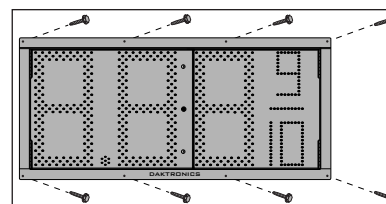
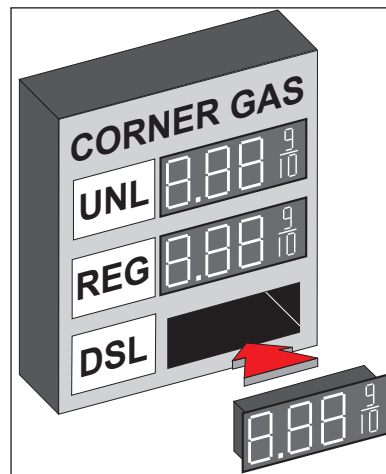

Figure 1: Securing Digit Cabinet
Figure 2: Inserting Digits into Cabinet
1. Mount the display into the sign structure using the provided holes in the mounting flange. Alternate holes can be drilled into the mounting flange if needed. Refer to **Figure 1** and **Figure 2**.